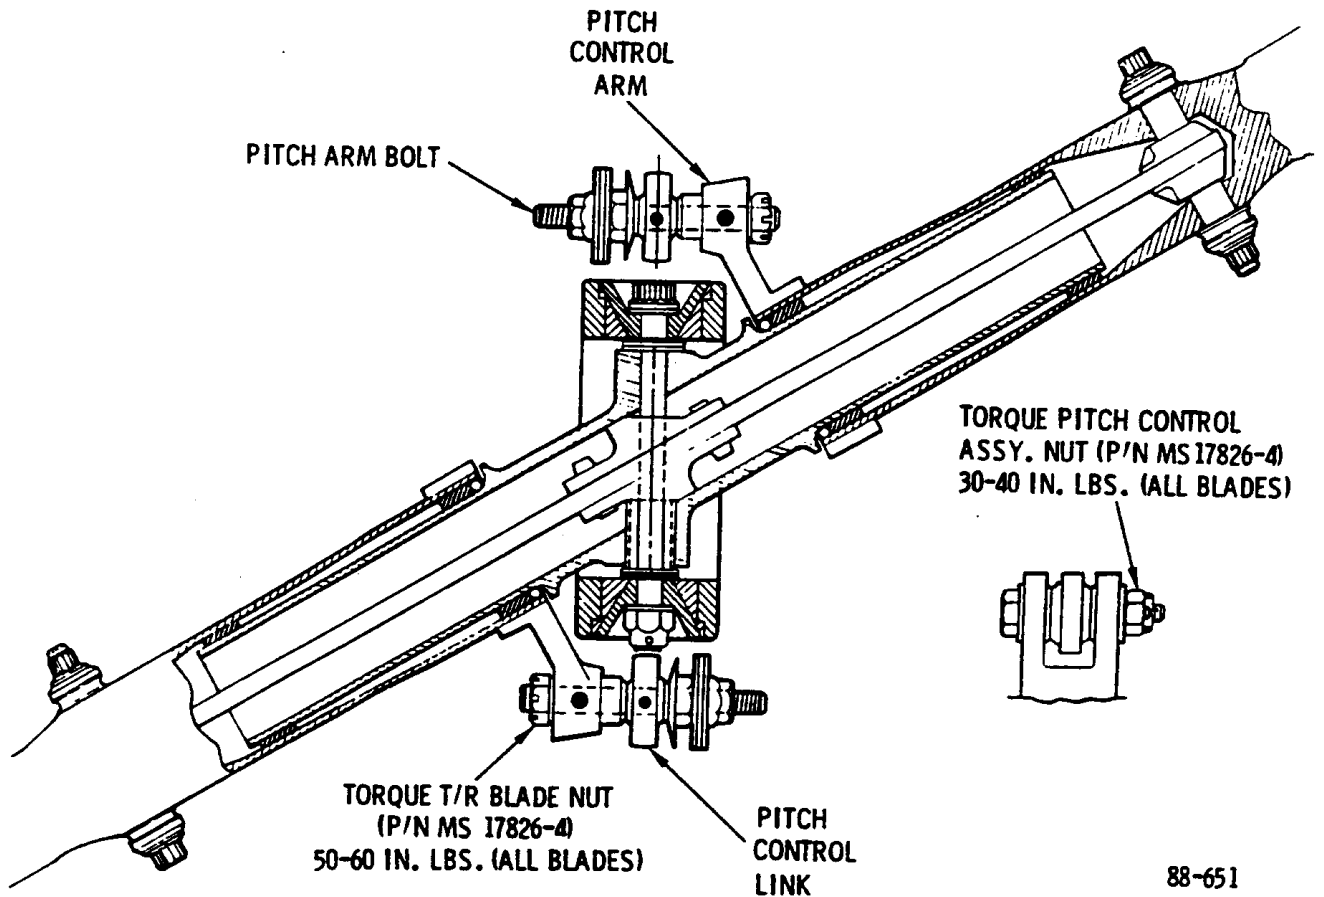

Figure 1. Replacement of Tail Rotor Pitch Link Nuts.
- a. Remove nuts at pitch control assembly and nuts at tail rotor blade pitch arm attachments. (Refer to Figure 1 .)